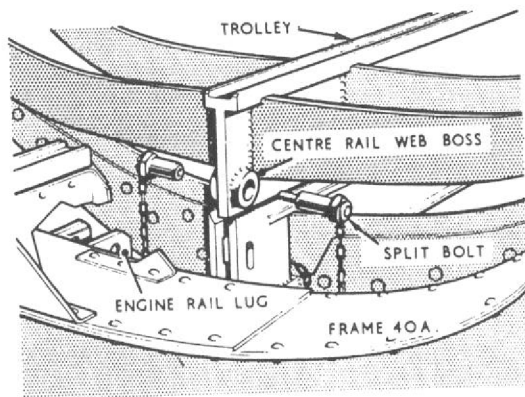

Fig. 15. Engine trolley connection
- (10) After disconnecting the items detailed in sub-para. (1) to (9), centralise the lateral adjustment handles, on the cross members above the axles, of the engine removal trolley. Wheel the trolley up to the aircraft so that the boss on the centre rail web is adjacent to the engine rail lug on the rear face of frame 40A. Screw down the built-in jack at each corner of the trolley and using the lateral adjustment, line up the centre rail web boss on the trolley with the engine rail lug on the aircraft (fig. 15).